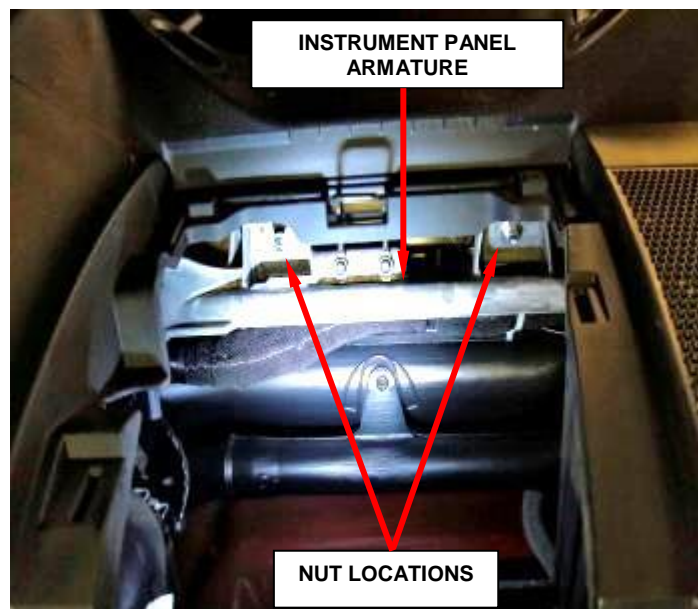

Figure 97 – PAB Lower Nuts
27. Reach up into the instrument panel glove box opening to access and remove and save the two nuts that secure the PAB lower studs to the instrument panel armature on each side of the glove box latch striker (Figure 97).